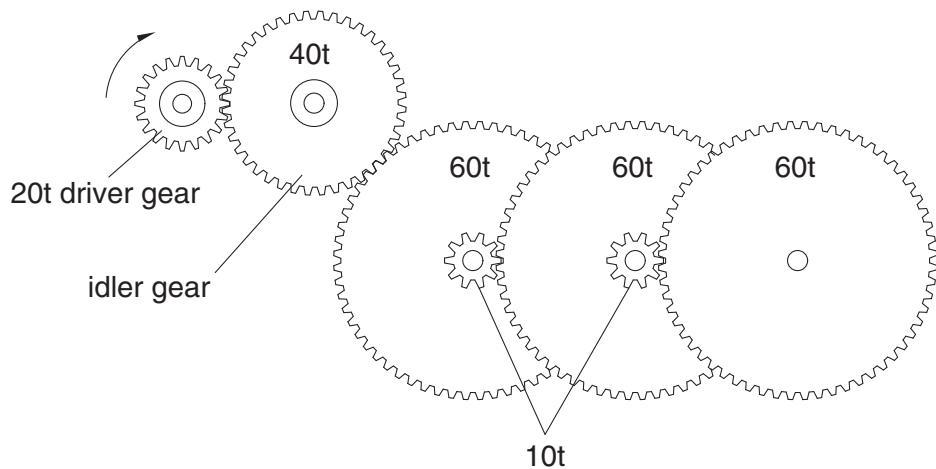

Fig. 9
- (ii) Calculate the reduction given by the gear system shown in Fig. 9.
- (iii) Mark the direction of rotation of the output on the gear system in Fig. 9.